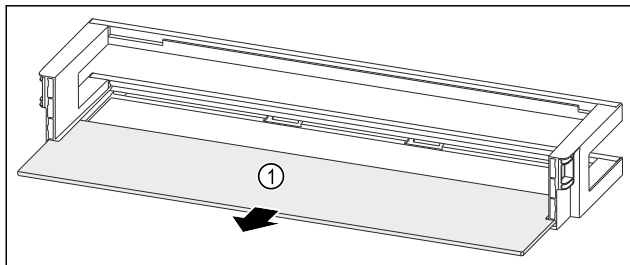

Fig. 124 Door racks with shelf
- Remove the shelf Fig. 124 (1).